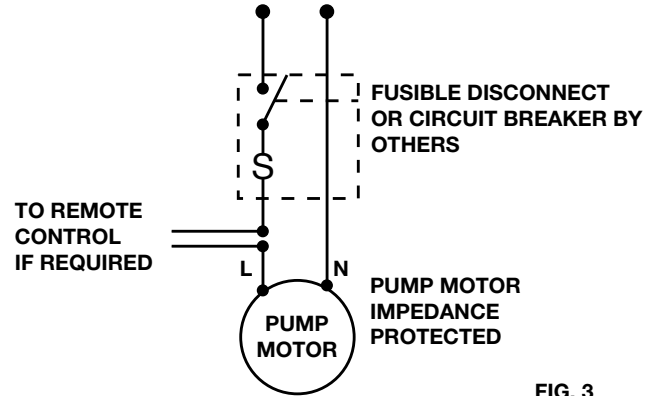

FIG. 3
- C. Using a minimum size of 14 AWG copper electrical wire (refer to your local code for wiring restrictions), wire the motor to a single phase power source that matches the electrical rating on the pump nameplate. See Fig. 3. Use the size of electrical wire as dictated by local code.